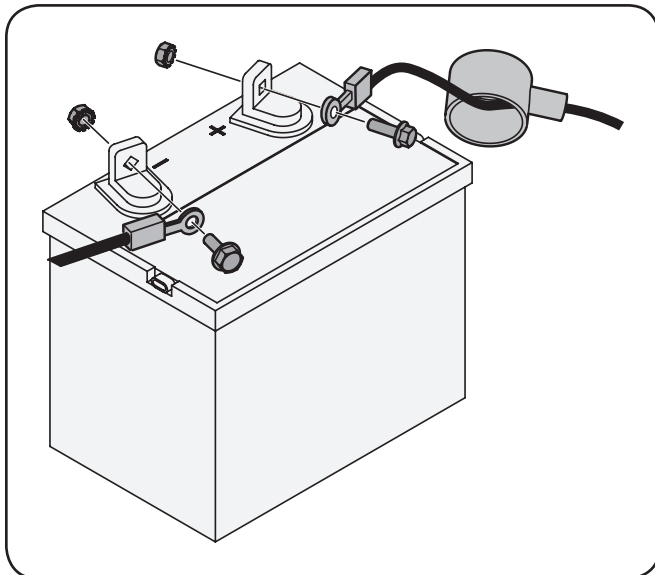

Figure 3-8
1. Remove the plastic cover, if present, from the positive battery terminal and attach the red cable to the positive battery terminal (+) with the bolt and hex nut. See Figure 3-8.
2. Remove the plastic cover, if present, from the negative battery terminal and attach the black cable to the negative battery terminal (-) with the bolt and hex nut. See Figure 3-8.